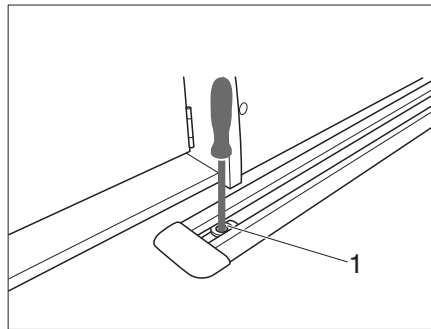

Fig. 25 Slide slot nut
- Loosen the screw in the slot nut (Fig. 25,1) with a Torx spanner.
- Slide the slot nut (Fig. 25,1) to the desired position and retighten the screw in the slot nut.